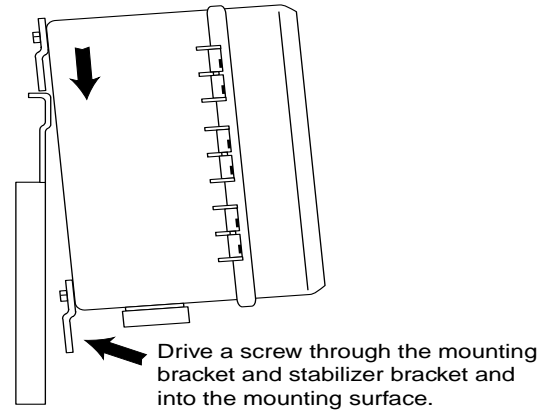

Figure 5
- c) Hang the unit on the stabilizer bracket, ensuring that the top mounting bracket is resting between the two tabs on the stabilizer bracket (Figure 5).